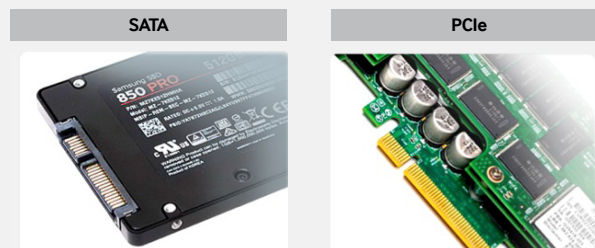

Figure 2. The SATA versus the PCIe interface
Today, SSDs are available with a variety of system interfaces based on the performance requirement of the applications. Common interfaces include Serial ATA (SATA), Fibre Channel (FC), Serial Attached SCSI (SAS), Advanced Technology Attachment (ATA/IDE) and PCIe. Of these, the most popular interfaces, SATA and PCIe, are shown in Figure 2.